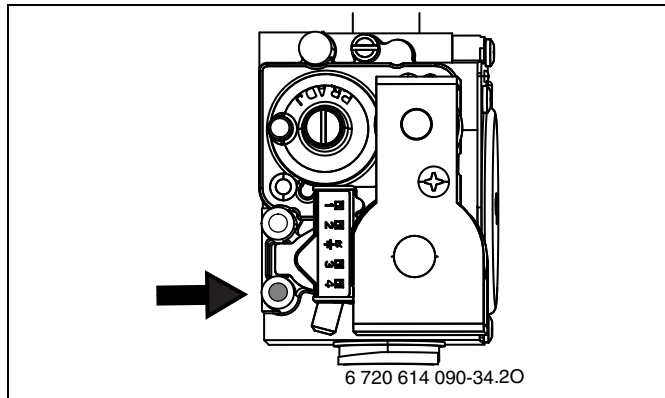

Fig. 85 Dynamic gas pressure test port
- ▶ Loosen the screw in the test port for gas inlet pressure (→ Fig. 52, [1]) and connect a pressure gauge (→ Fig. 85).